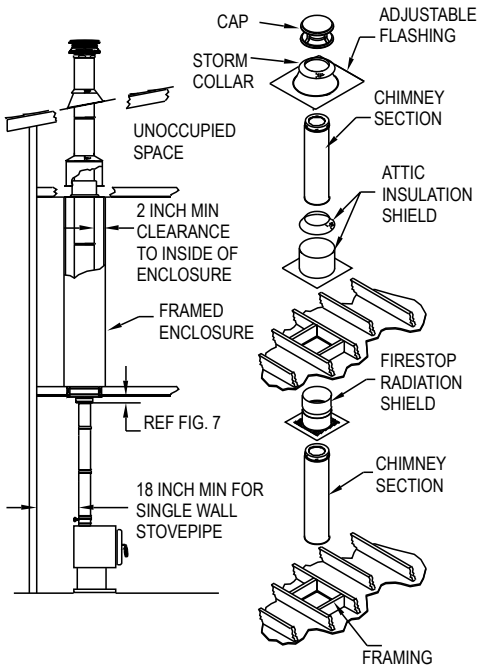
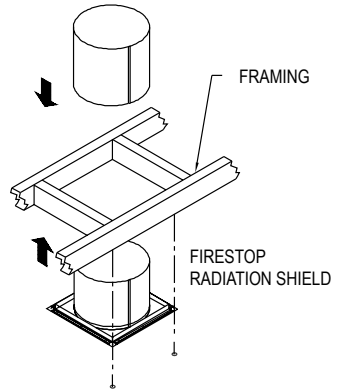

Figure 10
Figure 11
4. **Frame Openings:** Frame openings in each ceiling or floor above the Support Box (**Fig.10**). These openings are to hold the Firestop Radiation Shield and Attic Insulation Shield. Locate each opening by dropping a plumb bob to the four corners of the opening below. Maintain the framing dimensions as specified in **Table 1**. **Warning: other than the framing for the Reduced Clearance Support Box, any combustible materials around the chimney must meet the minimum 2” clearance requirement.** If Elbows must be used to avoid an obstruction, refer to the Offset Elbow Installation section.
6. **Install Firestop Radiation Shield:** A Firestop Radiation Shield is required in multistory installations at each floor penetration above that where the Support Box is located. Example: in a multistory home where the appliance is on the ground floor (Support Box is in the 1st floor ceiling), you would need a Firestop Radiation Shield at the 2nd floor ceiling, and at the 3rd floor ceiling, etc., including where the chimney penetrates into the attic. **Fig.10** shows a typical 2-story installation with an attic. Note: a Firestop Radiation Shield is not installed where the chimney penetrates through the roof. The Firestop Radiation Shield is installed on the underside of the ceiling/floor framing, with the cylindrical “tube” portion of the shield pointing upward. (**Fig.11**). Use a minimum of either (1) 8 penny nail or (1) #8, 1-1/2” wood screws
B4. Slip the Attic Insulation Shield over the Chimney and Firestop Radiation Shield until the base sits squarely on the framed opening (**Fig.10, 13**).